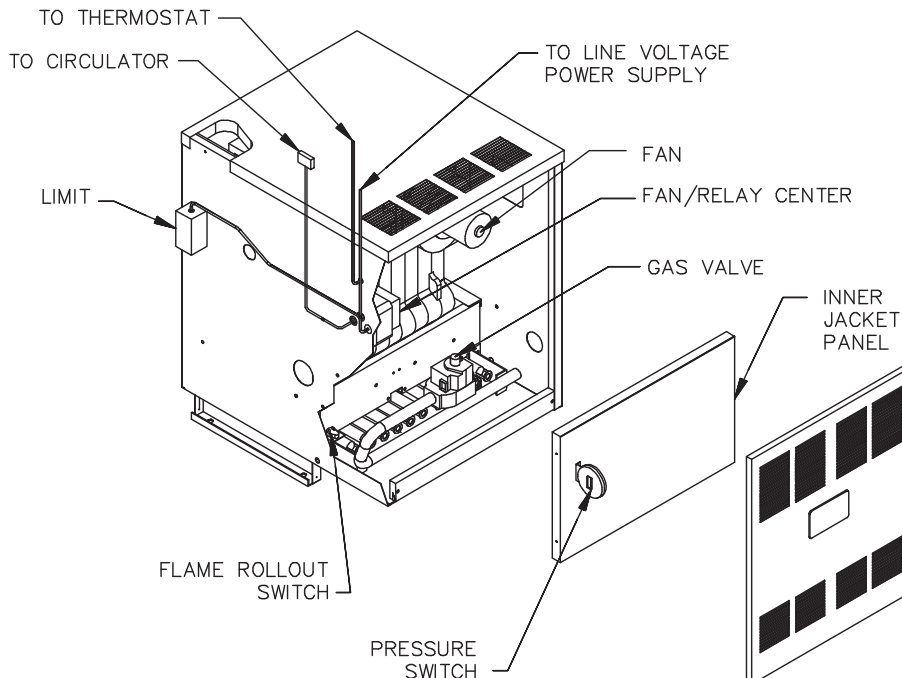

Figure 6.1: Wiring, Controls and Safety Devices
1. See Figure 6.1 for location of wiring and controls. Use Figure 6.2 to connect the boiler to a power supply and to connect components to the boiler.
1. For proper location of controls and accessories refer to Figure 6.1 and Section 11.
See Figure 6.1 in Section 6 (Electrical) for locations of these devices.